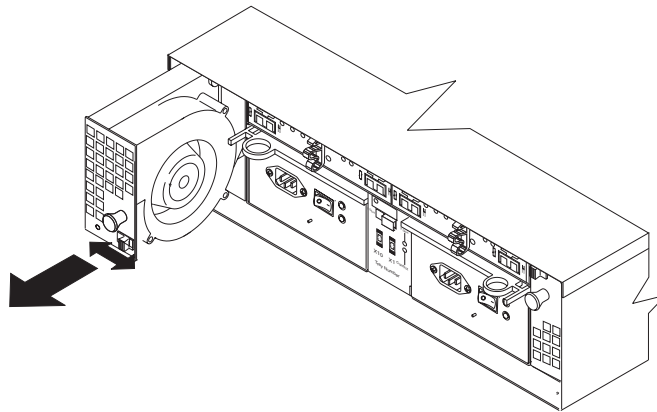

Figure 9. Removing a fan CRU
2. Grasp the handle and pull the fan unit out of the bay as shown in Figure 9.